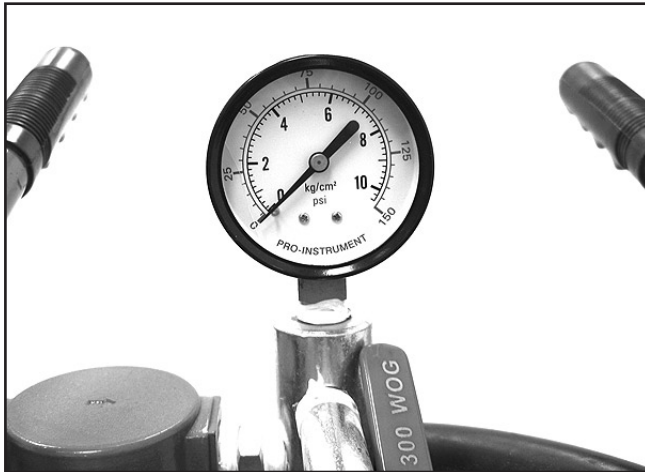

Figure 10. Tank air pressure at zero PSI.
6. Point the blast nozzle in a safe direction, and slowly move the blast nozzle lever to the **ON** or open position to exhaust any air from the tank (see **Figure 10**).
7. Make sure the air pressure gauge reads zero (see **Figure 10**).